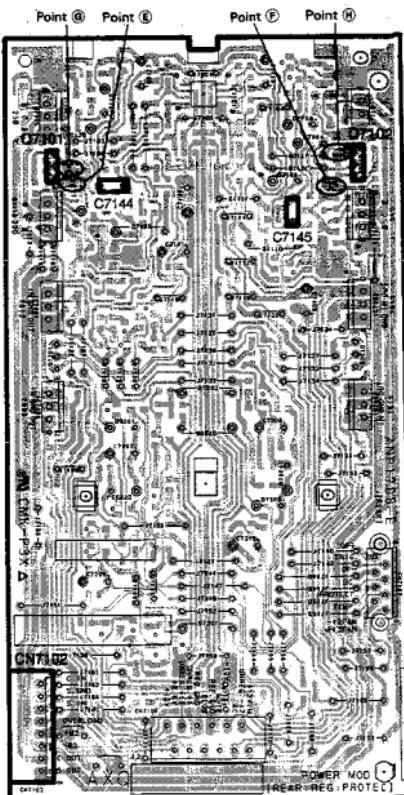

Fig. 5 REG W/REAR ASSY
| 8    | Center amp side   | Short between the Point ④ pattern in Fig. 5 using solder.   | Connect R7117 to R7115 in a parallel circuit.   |
| 9    | Surround amp side | Short between the Point ⑤ pattern in Fig. 5 using solder.   | Connect R7118 to R7116 in a parallel circuit.   |
| 12   | Center amp side   | Short between the point ⑥ pattern in Fig.5 using solder.  | Connect R7151 to R7119 in a parallel circuit.   |
| 13   | Surround amp side | Short between the point ⑦ pattern in Fig.5 using solder.  | Connect R7152 to R7120 in a parallel circuit.   |